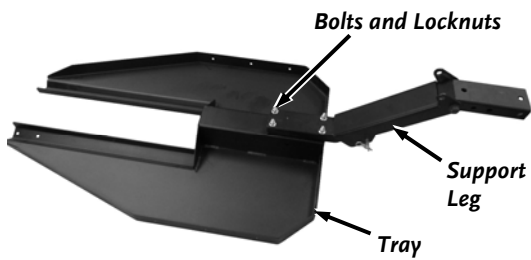

Figure 5
5. Install the Tow Bar to the end Tray with four Bolts and Lock Washers (from product package) using two 9/16" Wrenches (**Figure 5**).